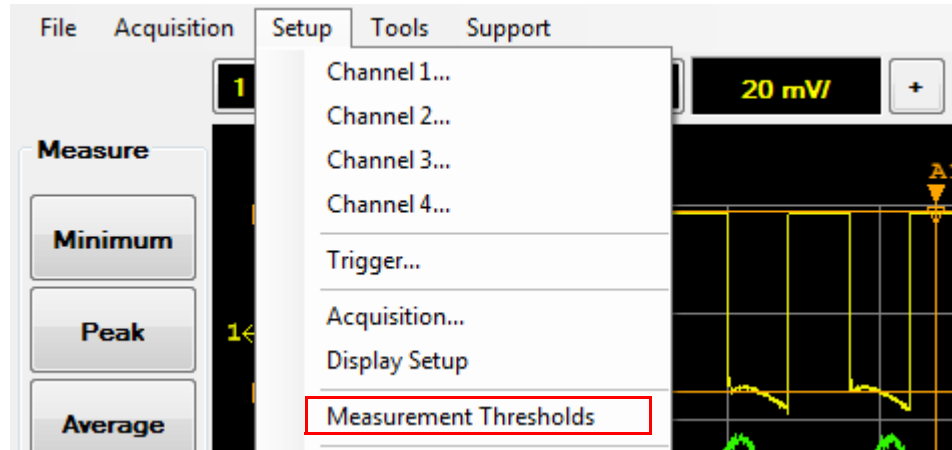

Figure 2-41 Measurement Thresholds selection in the Setup menu
- 1 Select **Setup > Measurement Thresholds** on the toolbar as shown in Figure 2-41.